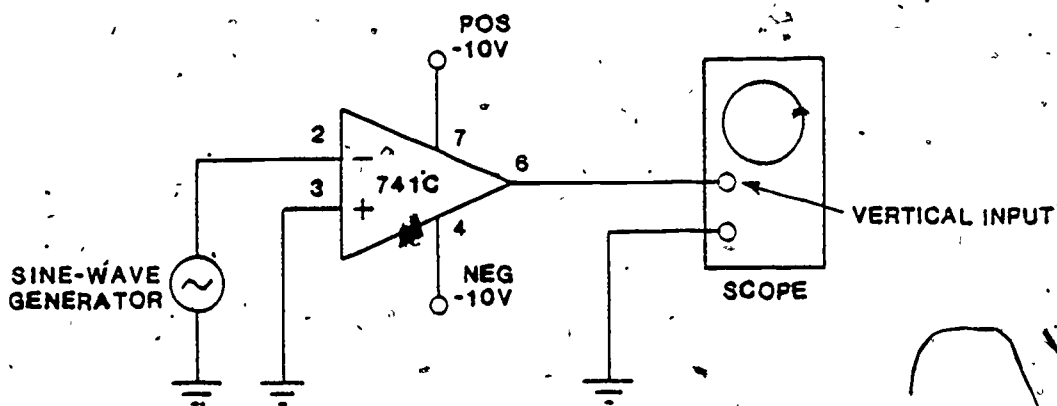

Figure 16. Comparator.
1. Construct the circuit (shown in Figure 16 below) for a comparator.